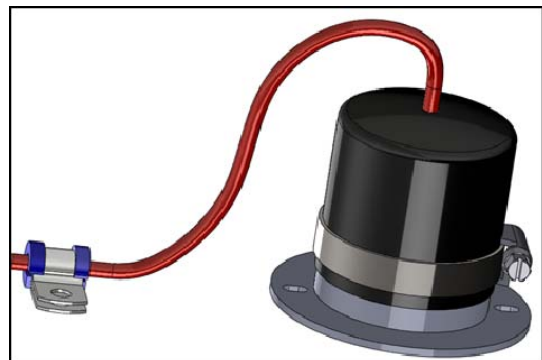

Figure 5. Synthetic plug, align clamp over lower flat area of Plug.
- b) Synthetic plug: Align the clamp over the flat portion of the plug body (Figure 5).